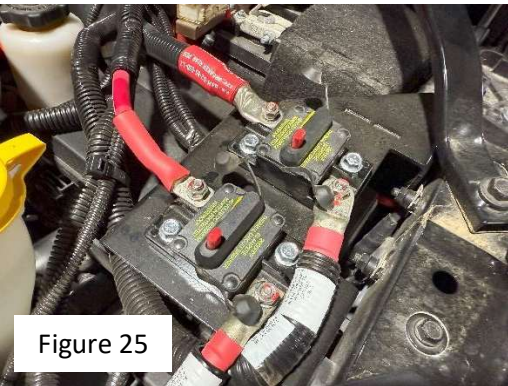

Figure 25
28. Re-Install two wires on breaker with the wire labeled "battery" towards the fender (Figure 25)